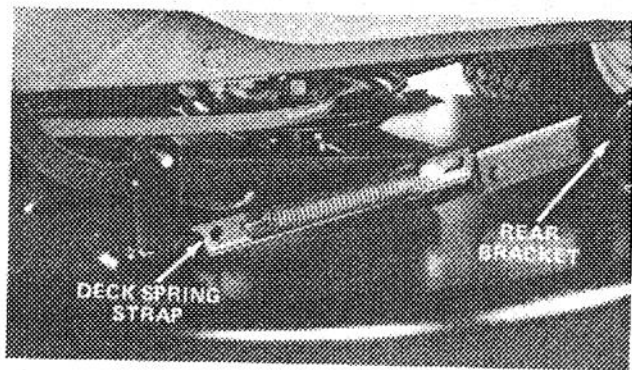

Figure 37
3. Remove hair pin cotters and flat washers from the deck spring straps and remove straps from the pins (Fig. 37).
5. Insure rear cutting unit brackets (Fig. 37) are resting on the pins and install the new belt.